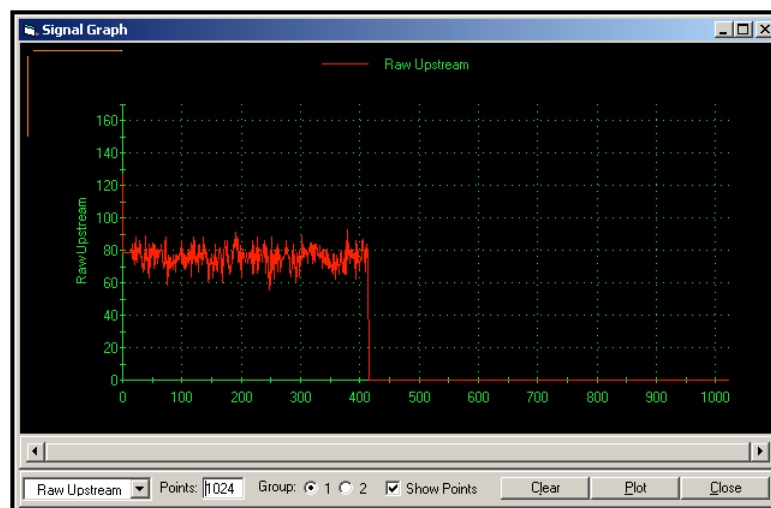

**Figure 7: Active Signal Options**
1. To read a signal from the meter, click on the [Read Signals] button. (If the meter is a multi-channel instrument, open the Channel drop-down menu and click on the desired channel.) After a moment, the *Properties* window appears similar to Figure 7.